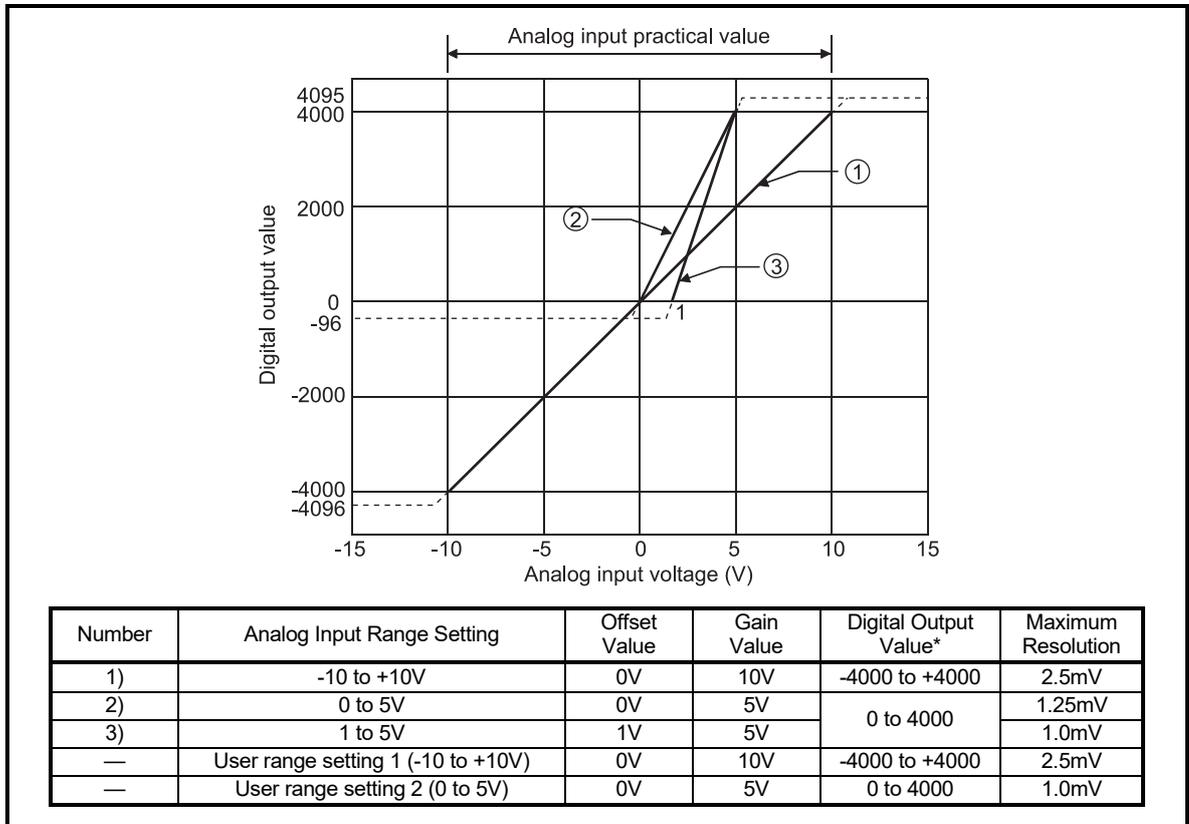

Fig. 3.1 Voltage Input Characteristic
(1) Do not input more than $\pm 15V$ . The element may be damaged.
(2) If the analog input provided corresponds to the digital output value* beyond its range, the digital output value is fixed to the maximum or minimum. <ul style="list-style-type: none"> <li>• For 0 to 4000, the digital output value is within the range -96 to 4095.</li> <li>• For -4000 to +4000, the digital output value is within the range -4096 to +4095.</li> </ul>
(3) Within the analog input and digital output scopes of each input range, the maximum resolution and accuracy are within the performance specification range. Outside those scopes, however, they may not fall within the performance specification range. (Avoid using the dotted line part in Fig. 3.1.)
(4) Set the offset and gain values of the user range setting within the range satisfying the following conditions. <ul style="list-style-type: none"> <li>(a) Setting range when user range setting 1 is selected: -10 to +10V</li> <li>(b) Setting range when user range setting 2 is selected: 0 to 5V</li> <li>(c) (Gain value) &gt; (Offset value)</li> </ul> If you attempt to make setting outside the setting range of (a) or (b), the "RUN" LED flickers at 0.5s intervals. Set the values within the setting range. If you attempt to make setting outside the setting range of (c), the "RUN" LED flickers at 0.5s intervals. Make setting again.